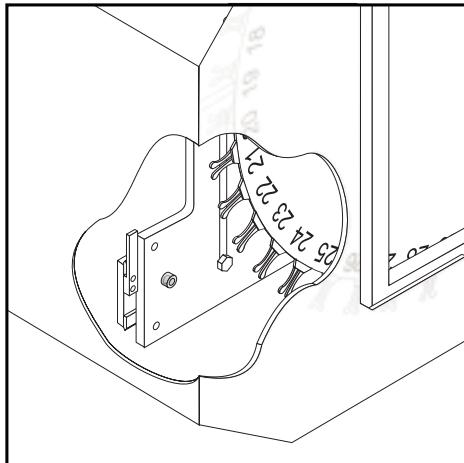

Figure 3-22.
1. Remove the tool changer's shipping retainer bolt. Refer to *Figure 3-22*.